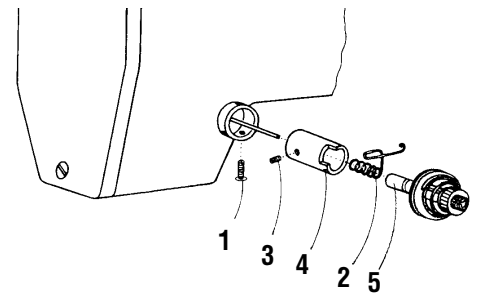

Fig. 23
26. Setting of the adjusting spring function (Fig. 23)